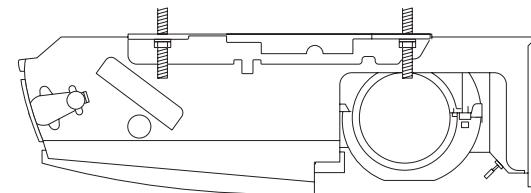

Fig. 3-91
- c) Tighten the 2 hexagonal nuts on each suspension bolt to suspend the indoor unit as shown in Fig. 3-91.